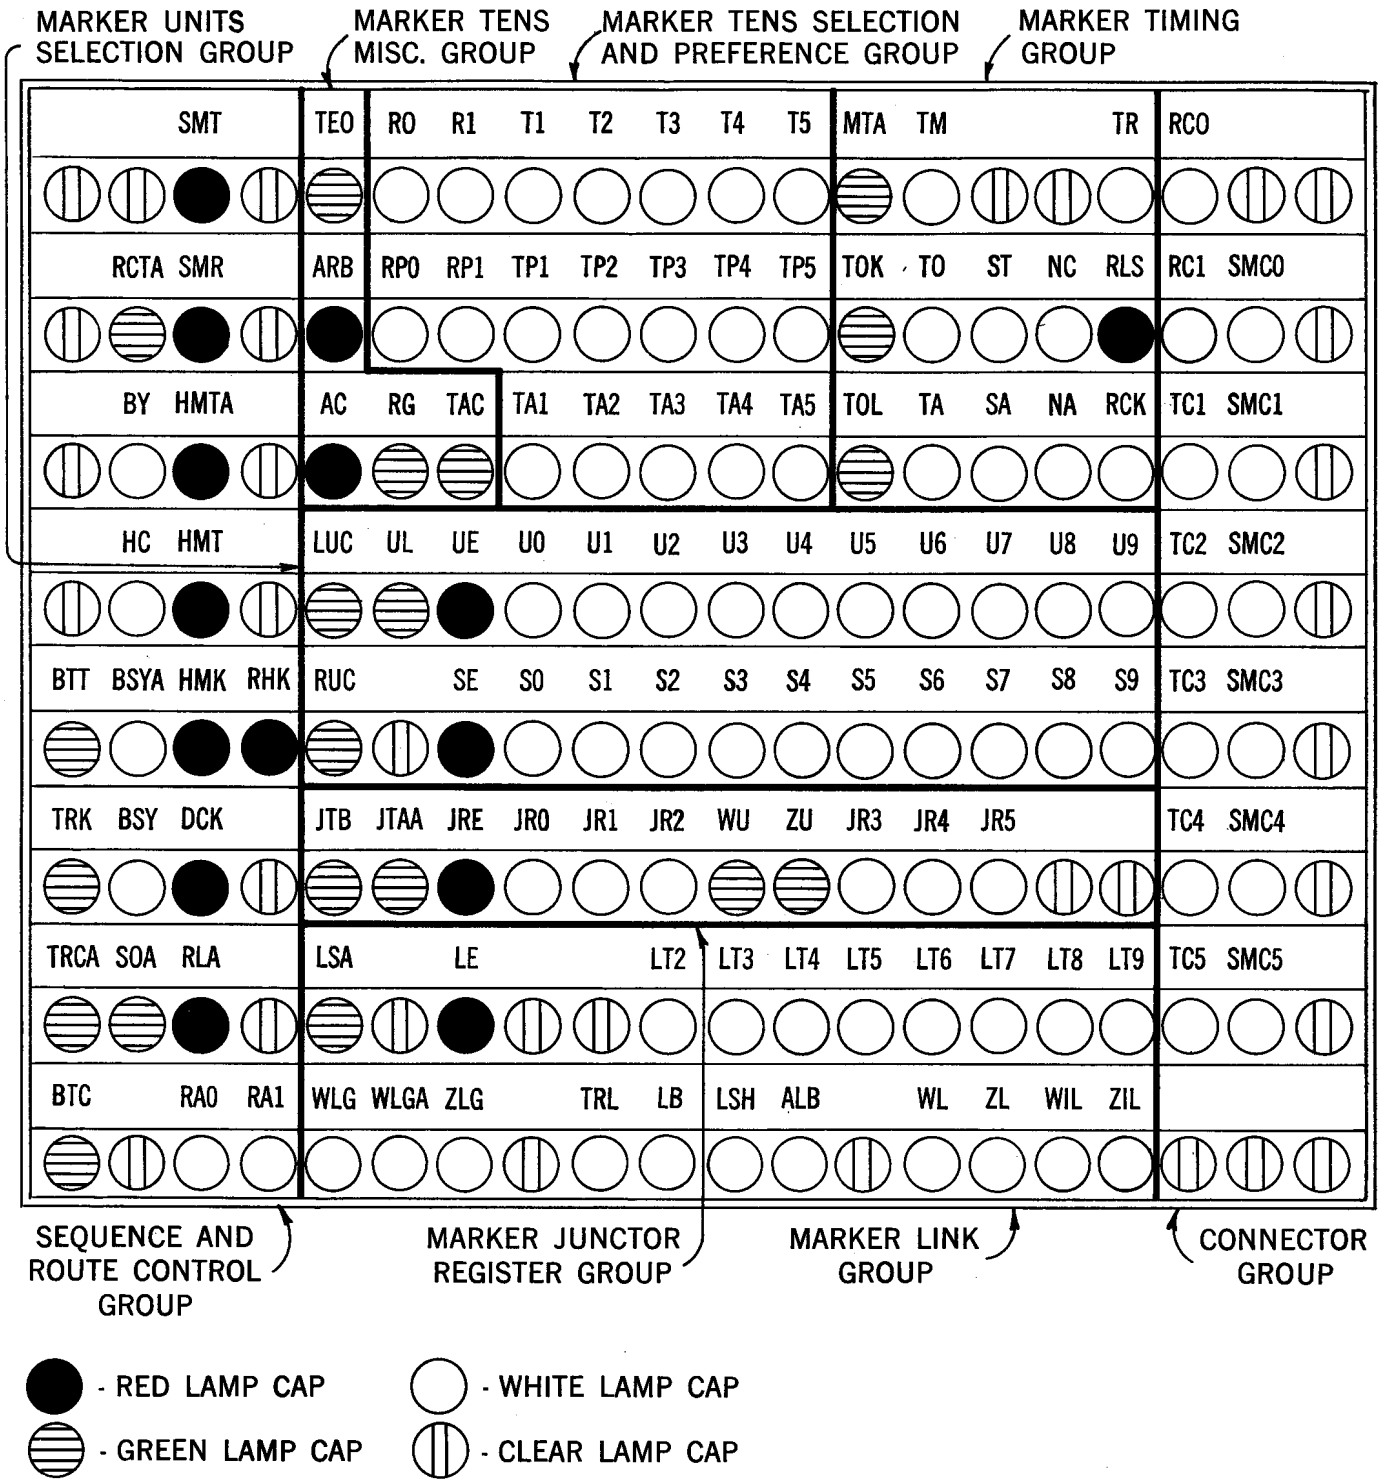

Fig. 1 - Call Progress Lamps, Front View
2.04 The grouping arrangement of the lamps, which relate to a particular connecting circuit function, are shown in Fig. 1.